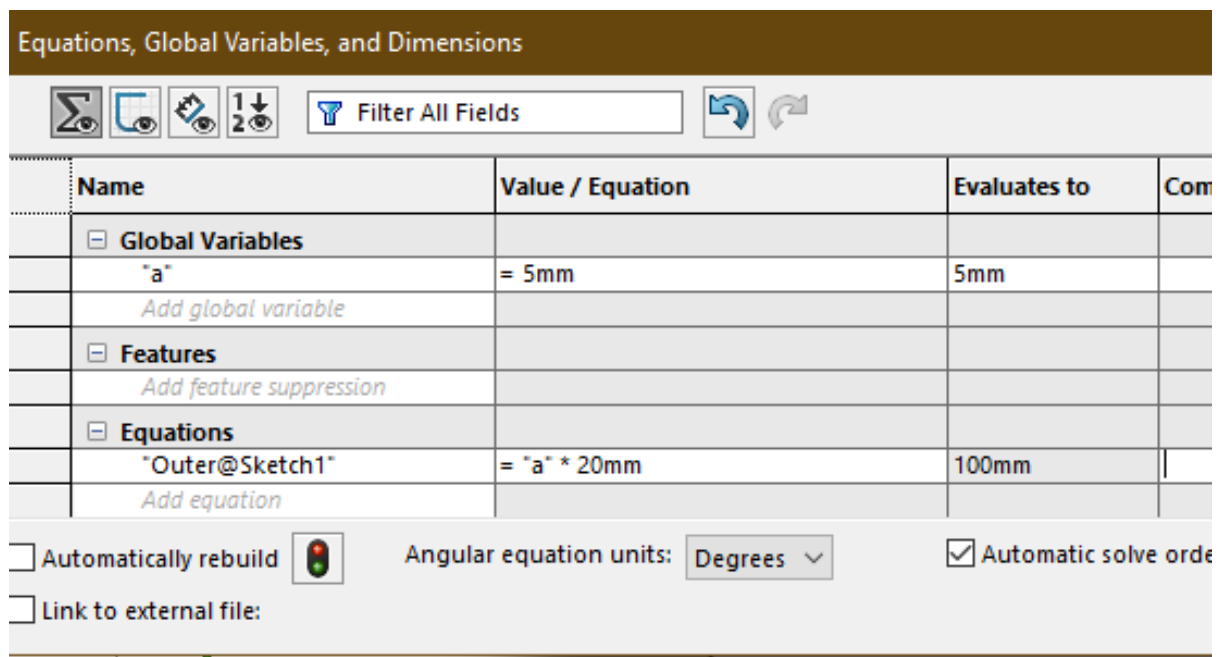

Figure 34 – Setting the size via a global variable
- in the second column of the table after the sign "=", indicate the global variable and the mathematical operation with it (Fig. 34) to get the final value of the size that depends on the global variable.